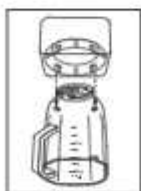

Fig. 15
- a. For models with Boroclass[®] glass jar only, turn jar upside down and place the collar on the small/ bottom opening of the jar ensuring the notches in the collar fit into the four tabs on the jar (Fig. 15).